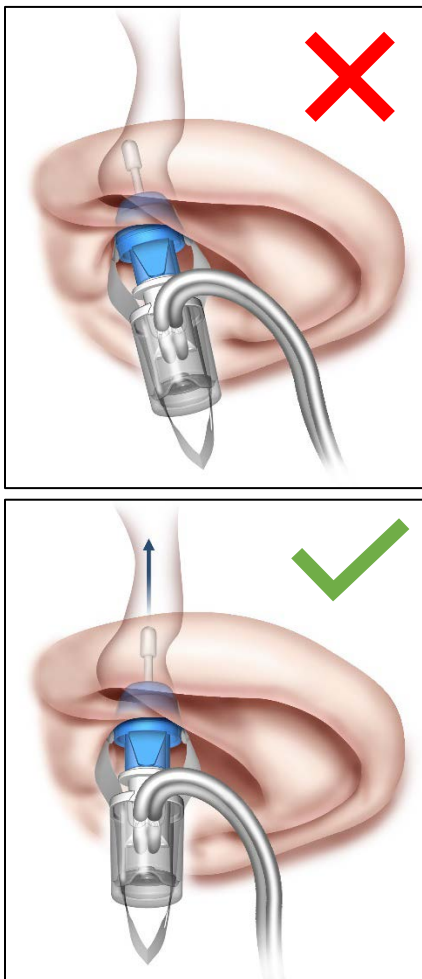

Figure 16. Improper (Top) and Proper (Bottom) Earset Insertion Angles
- a. While holding the Earset handle with the Fill Line and Earplug Flap facing the top of the head, straighten the ear canal by pulling the pinna towards the back of the head, and carefully insert the Earplug into the patient's ear canal. The PSA-coated Earplug is partially covered by a protective liner to facilitate proper insertion and positioning. Ensure the Earplug is inserted in a medial (and not anterior) orientation, to facilitate the TYMBION drug properly reaching the tympanic membrane (**Figure 16**).